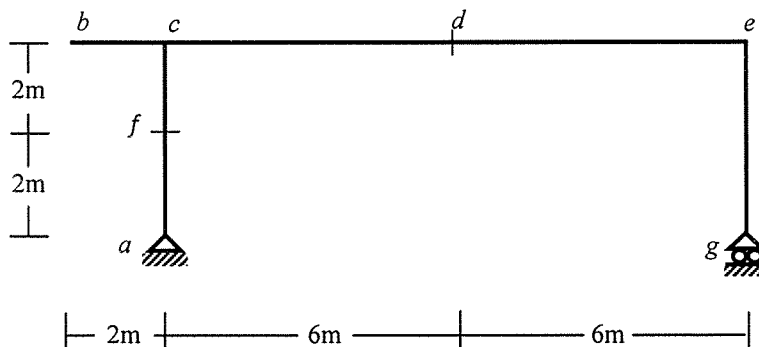

Fig.3
3. For the frame shown in *Fig.3*, draw the influence lines for H_a , V_f , and M_d if the unit load moves over the beam *be*. [5]